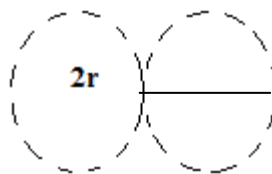

Fig 5.12
**It is half of the nearest neighbouring distance in a crystal.** It is denoted by 'r'. It is usually expressed in terms of cube edge 'a'(lattice parameter ).(Fig 5.12).